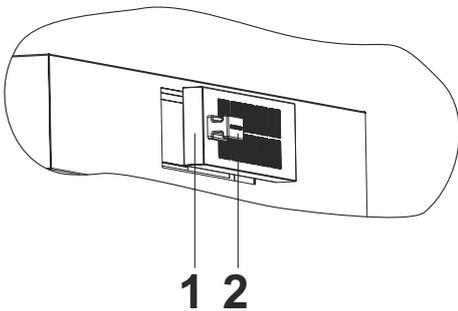

Fig. 6
1. ➤ Remove the active carbon filter (Fig. 6/1) with the holding magnet. (Fig. 6).